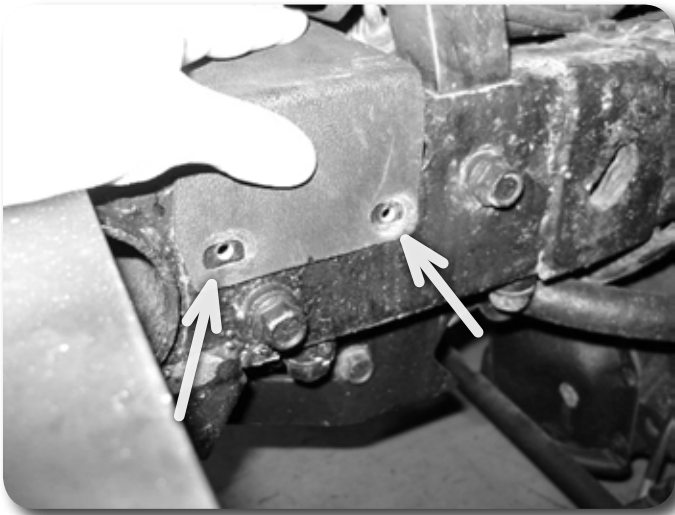

Figure 1
3. Locate and remove the front plastic "Jeep" cover from the frame. There are 4 bolts (2 per side). **Figure 1** Save hardware.